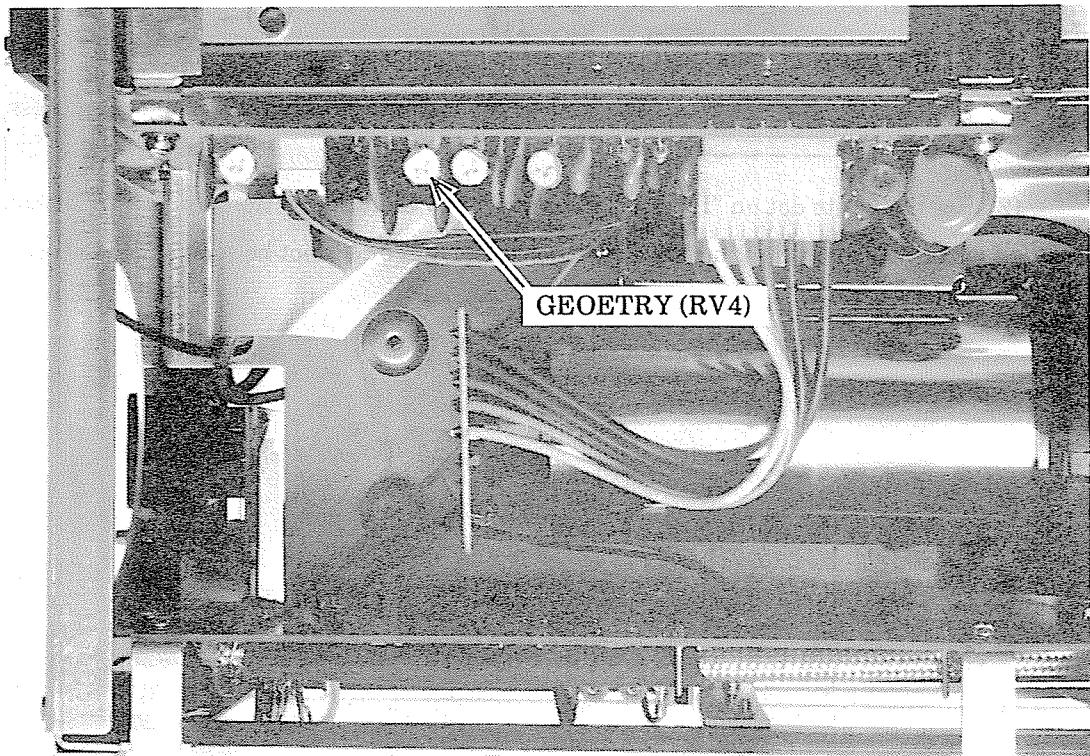

Fig. 4-10 Adjustment position of GEOMETRY (RV4)
- (1) Apply a 50kHz, 8DIV amplitude signal to CH1 input from signal generator.
- (2) Confirm that the waveform on the CRT is not distorted. If it is distorted, adjust GEOMETRY (RV4) on board A6 indicated in Fig. 4-10.